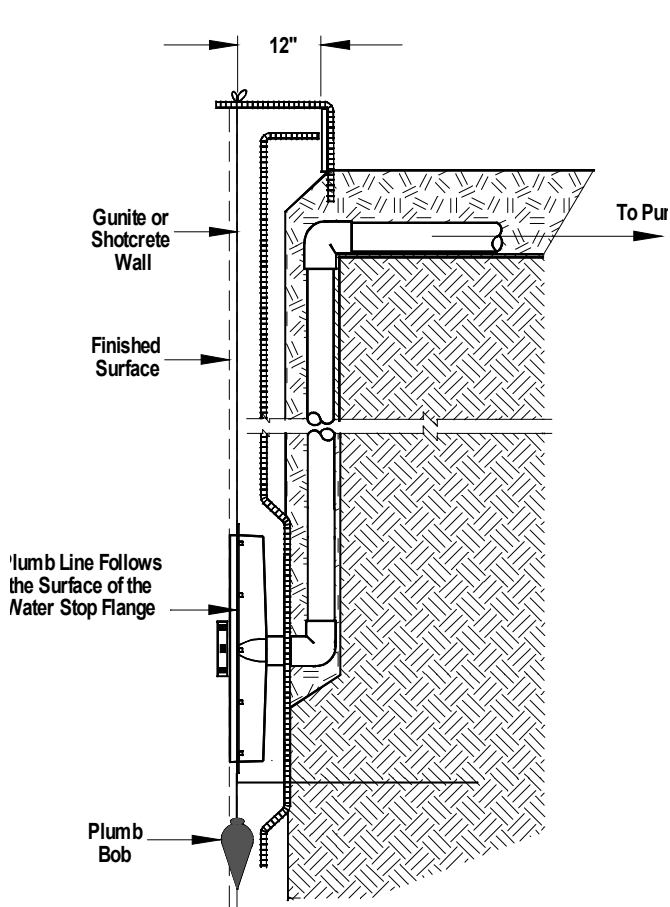

Figure 2
6. When the Channel Drain is installed properly, the plumb line will pass along the flat water stop flange on the Channel Drain (see Figure 2). **SUGGESTION:** The parts should be "dry fitted" before gluing to assure that the proper positioning of the Channel Drain is achieved. (a.) The Channel Drain finishes along the plumb line assuring that it is at the proper depth (b.) The Channel Drain finishes level vertically and horizontally.
8. When installing the “steel basket” around and behind the Channel Drain, the rebar must be bent and formed so that the “basket” is behind and not touching the Channel Drain (see Figures 2 and 3).